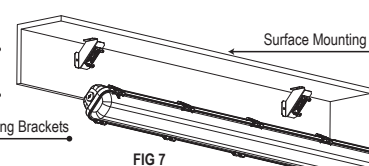

FIG 7
2. Secure the Angle Bracket to the mounting surface with appropriate hardware, as shown in Fig. 7.